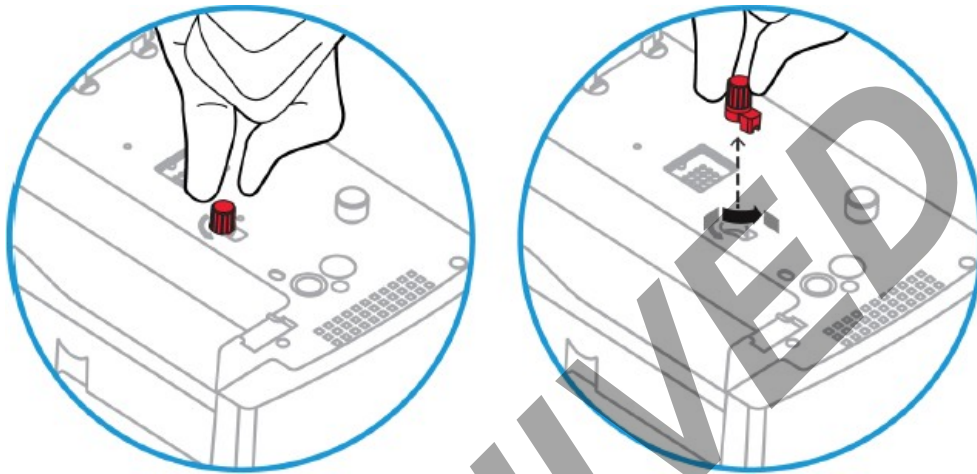

Figure 25. Step two removing the shipping plug
12. Step 2: Turn the shipping plug in the check valve 90° counterclockwise, then remove it. Save the small piece that is removed (see Figure 25).